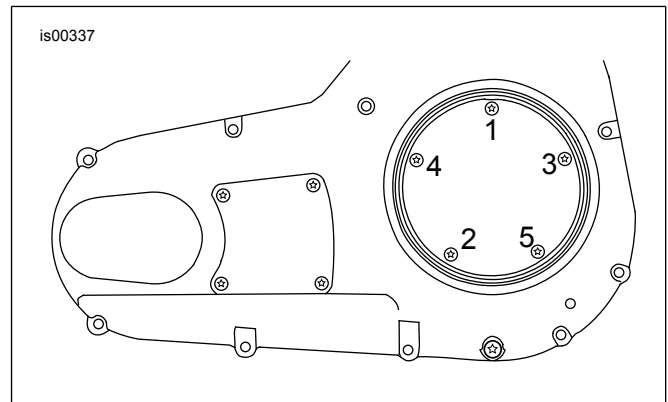

Figure 1. Torque Sequence, Clutch Inspection Cover
5. Install derby cover (1) and gasket on primary chaincase cover using screws and washers from the kit. Tighten screws to 10–12 N·m (84–108 in-lbs) in the sequence shown in Figure 1.